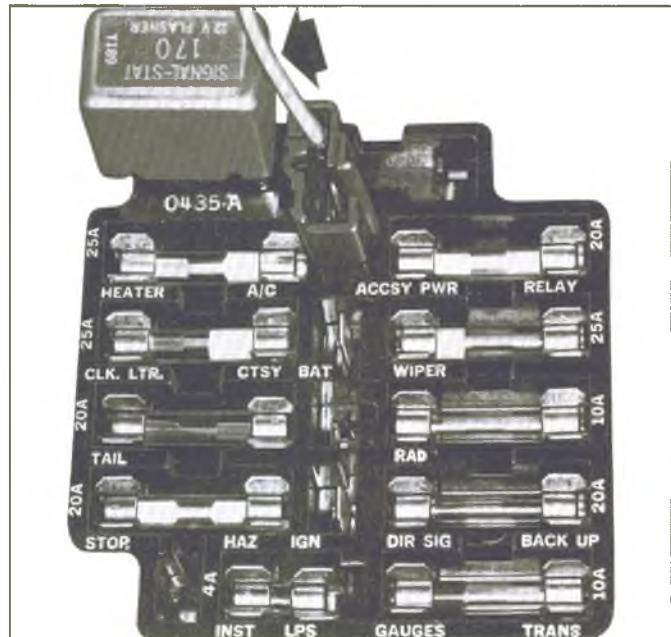

Fig. 119—Checking Hazard Warning Flasher
3. Depress hazard warning button and check all lights in signal switch system. Replace any which do not work. If **all** lamps light when hazard warning is depressed, but flashing does not occur, replace hazard warning flasher. (On fuse block) (Figure 119).